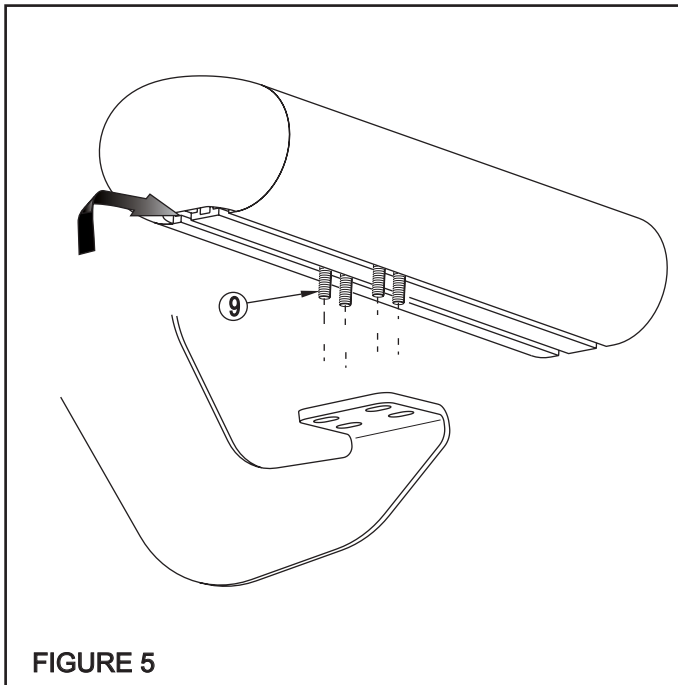

FIGURE 5
- STEP 6. Slide T-head bolts on step bar as shown (4 per slot, 8 per bar, 4 per bracket). Place step bar on saddle with long step pad forward and end cap screw facing inward. Assemble with 1/4" fasteners. **SEE FIGURES 5 AND 6.**